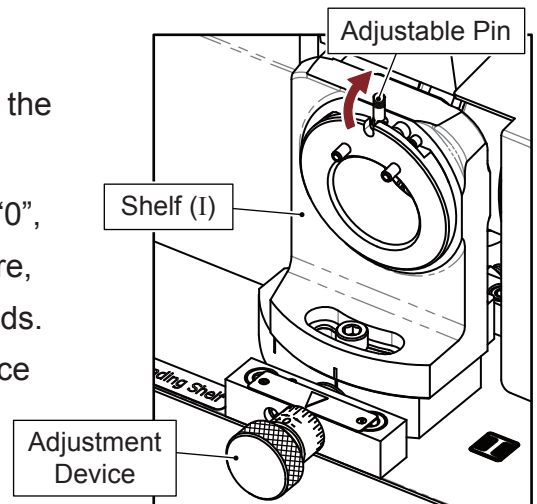

Fig. 5-15
1) Secondary Relief Grinding Shelf (I) (Fig. 5-15)
- ① Move the adjustable pin on the Shelf (I) from the bottom to top.
- ② Adjust the cutting face adjustment device to "0", after finishing the whole sharpening procedure, then adjust this device according to your needs. (See chapter "V-4. The use of the Cutting Face Adjustment Device")